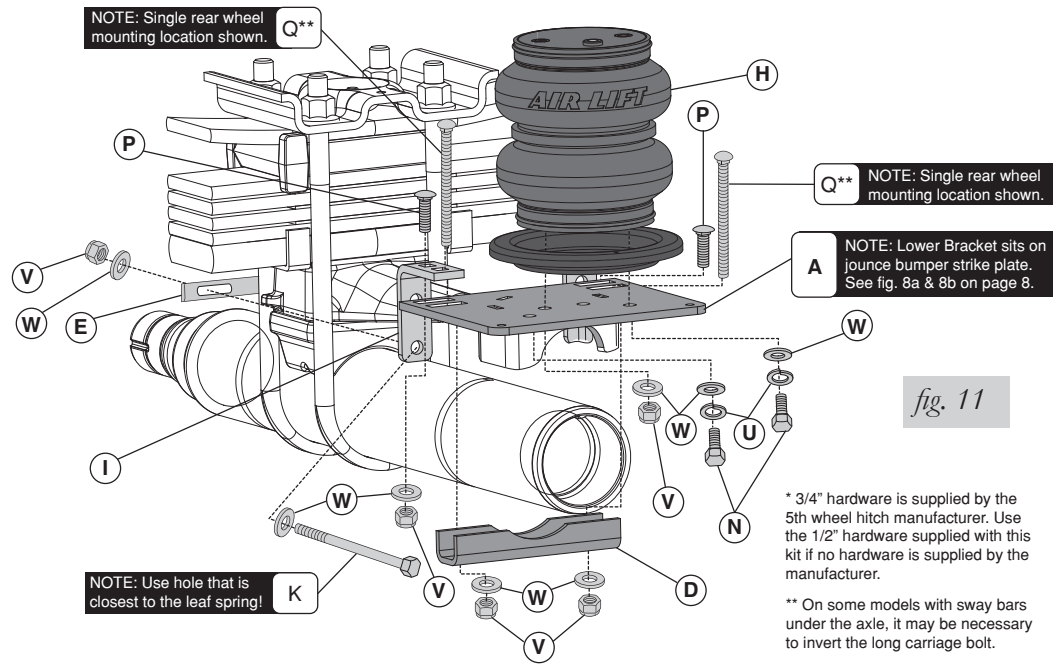

fig. 11
3. Attach the locating bracket (I) to the lower bracket with a 3/8"-16 x 1.25" carriage bolt (P), flat washer (W) and nyloc nut (V) using the remaining slot in the top of the locating bracket. Leave loose at this time.
5. Using the 3/8"-16 x 5.5" hex head bolts (K) and flat washers (W) previously installed on the locating brackets, insert them into the spring clamp bar (E) on the opposite side of the leaf spring assembly (Fig. 11). Cap with 3/8" flat washers (W) and nyloc nuts (V). Leave loose at this time.